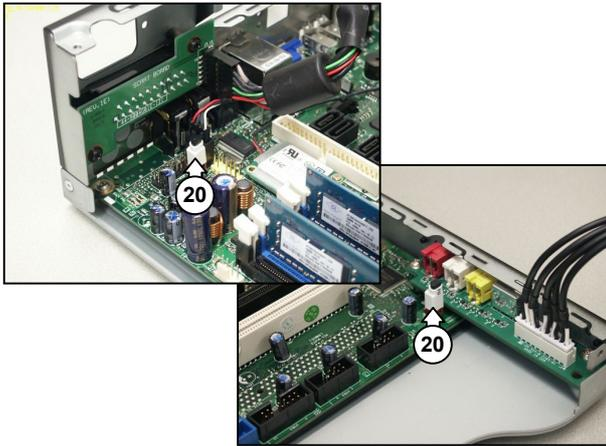

Figure 12.15-12
2. Remove the 2 thermistors (20). See Figure 12.15-12.